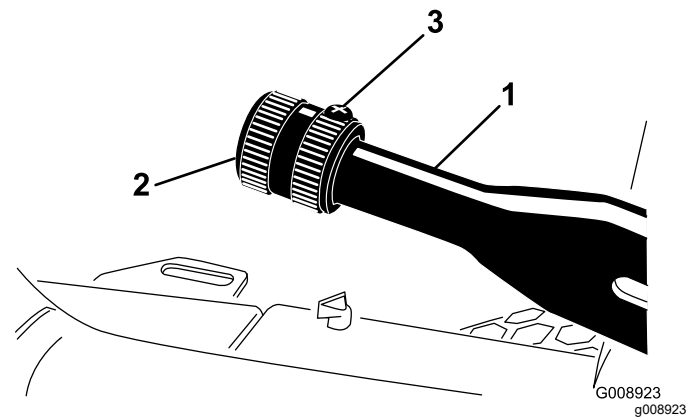

Figure 59
2. Loosen the setscrew securing the knob to the parking-brake lever (Figure 59).